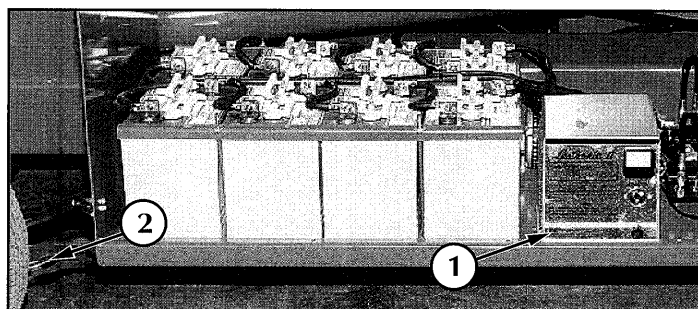

Figure 4-2: Battery Charger
**BATTERY CHARGING (ELECTRIC MODEL ONLY-Figure 4-2)**